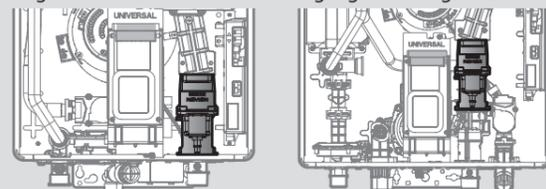

Figure 2. NHW700 Series Internal Components
3. Once the front cover is removed, place it in a safe location to prevent accidental damage. With the internal components exposed, locate the Gas Inlet Pipe and the Gas Valve near the right side of the unit which are highlighted in Figure 2.